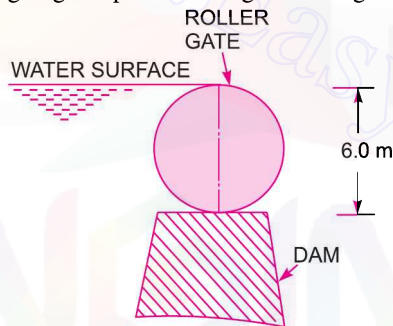

Fig. 3.59
20. A roller gate is shown in Fig. 3.59. It is cylindrical form of 6.0 m diameter. It is placed on the dam. Find the magnitude and direction of the resultant force due to water acting on the gate when the water is just going to spill. The length of the gate is given 10 m. [Ans.  $2.245 \text{ MN}$ ,  $\theta = 38^\circ 8'$ ]